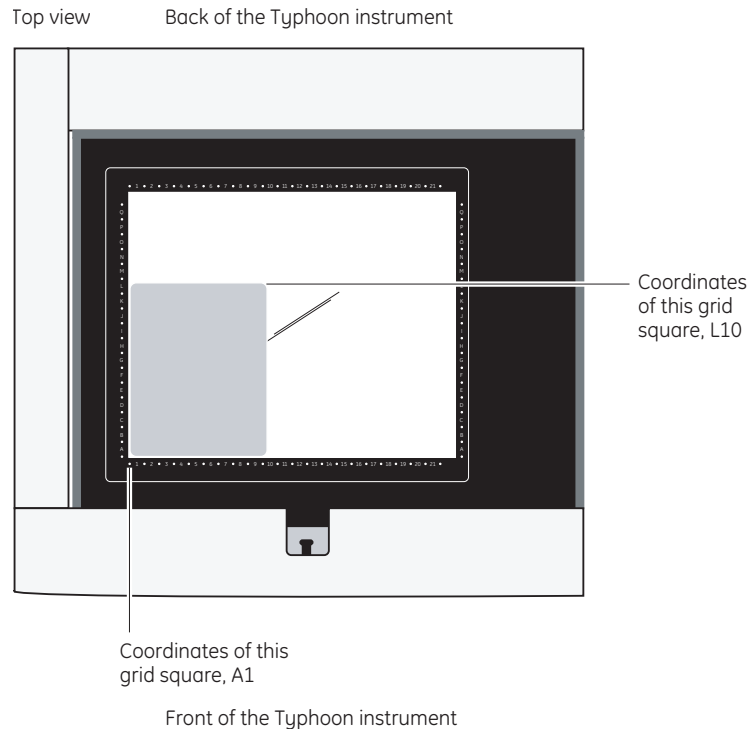

Fig 11-2. Sample placement on the glass platen of the Typhoon instrument.
Use the following guidelines and fig 11-2 to determine where on the glass platen to place the sample:
- Position a rectangular sample so that the shortest edge is along the numbered side of the glass platen as shown in fig 11-2. Because each pass of the scan head moves the entire length of the glass platen (from front to back), placing the longest edge of the sample along the scan head path minimizes the scan time.
- 4 Make a note of the grid square coordinates of the area you want to scan (fig 11-2). You will use this information later in the Scanner Control window.